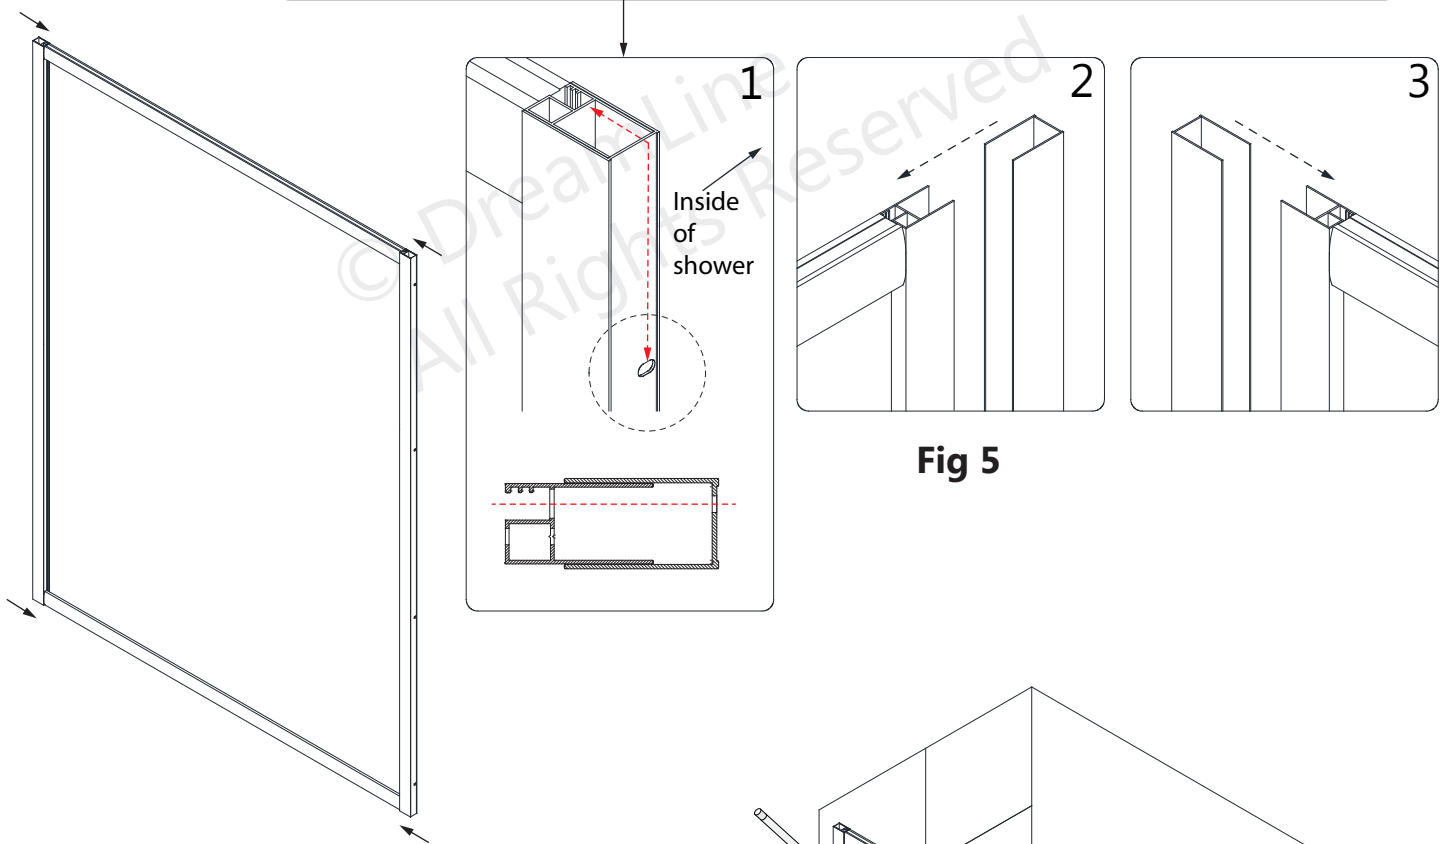

Fig 5
5. Slide the **Wall Profiles (#02)** all the way onto the **Glass Profiles (#01)** on both sides. (Fig 5)